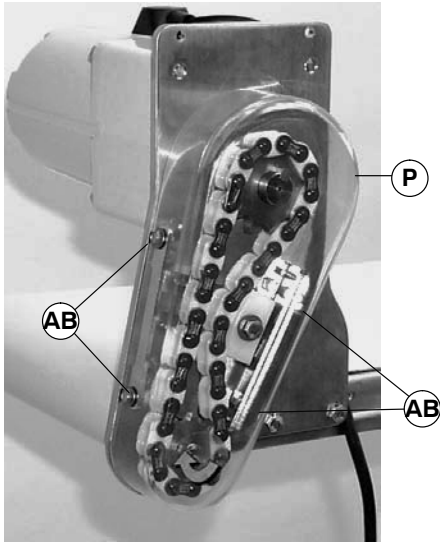

Figure 23
1. Loosen four screws (AB of Figure 23) and remove cover (P).
NOTE: Do not over-tighten screws (AB of Figure 23).
8. Install cover (P of Figure 23) and tighten four screws (AB) to 35 in-lb (4 Nm).